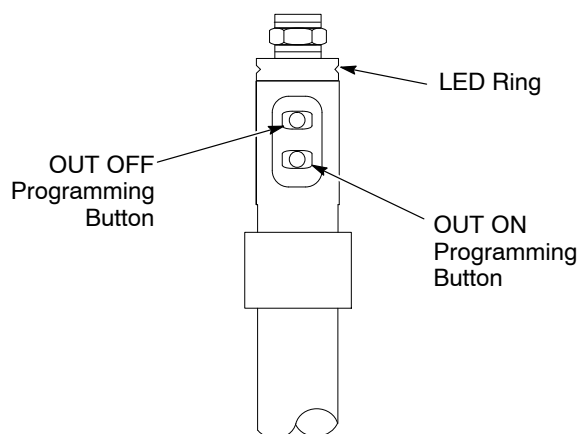

Figure 4-12 Programming the Two Button Level Sensor Probe
3. See Figure 4-12. Press the OUT OFF programming button until the LED ring slowly flashes yellow.
2. See Figure 4-12. Press the OUT ON programming button until the LED ring switches from flashing slowly to flashing quickly.